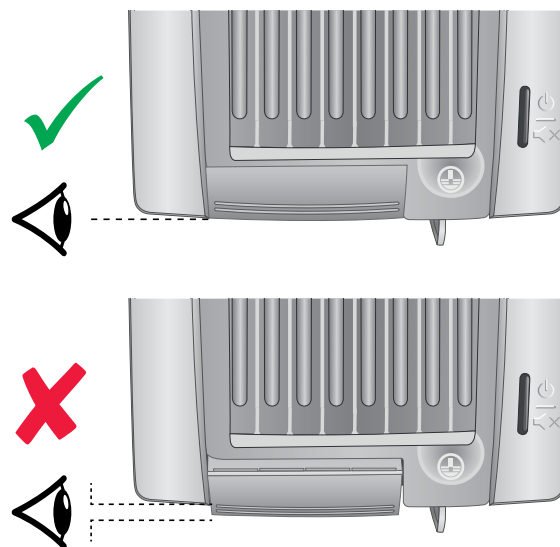

Figure 1: Ensure latch is flush with the front of the InterCooler housing.
**Push the cassette down** and the **latch forward**, ensure location by checking that the **latch is flush** with the front of the InterCooler housing (see fig.1 over the page)
**Push the cassette down** and the **latch forward**, ensure location by checking that the **latch is flush** with the front of the InterCooler housing (see fig.1 below)